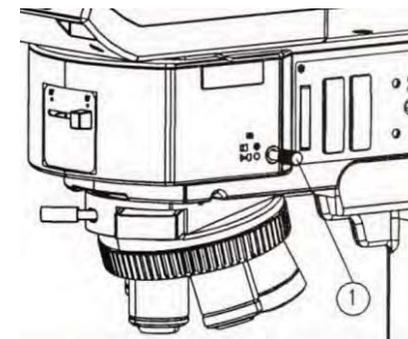

Fig.26
- ★ When the color filter is not used, the attached dust cover shall be covered. When using the built-in color filter, push the pull rod (1) inwards and inwards, and move the color filter into the optical path. (See Fig. 26)